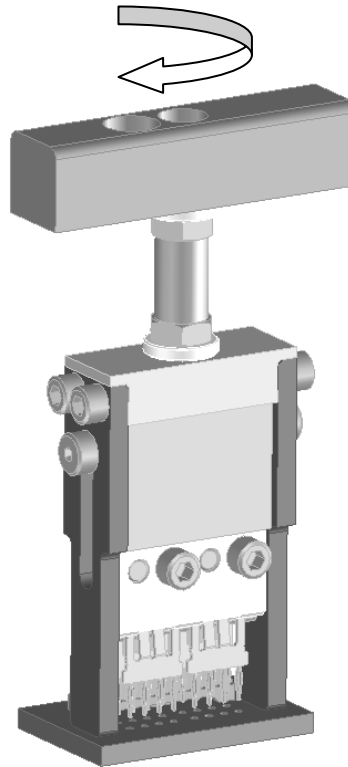

Figure 5
6. Position the Terminal Removal Tool so that the (2) side supports are resting on the printed circuit board.
8. Continue turning the T-Handle until the terminals lift up and are removed from the printed circuit board. See Figure 5.